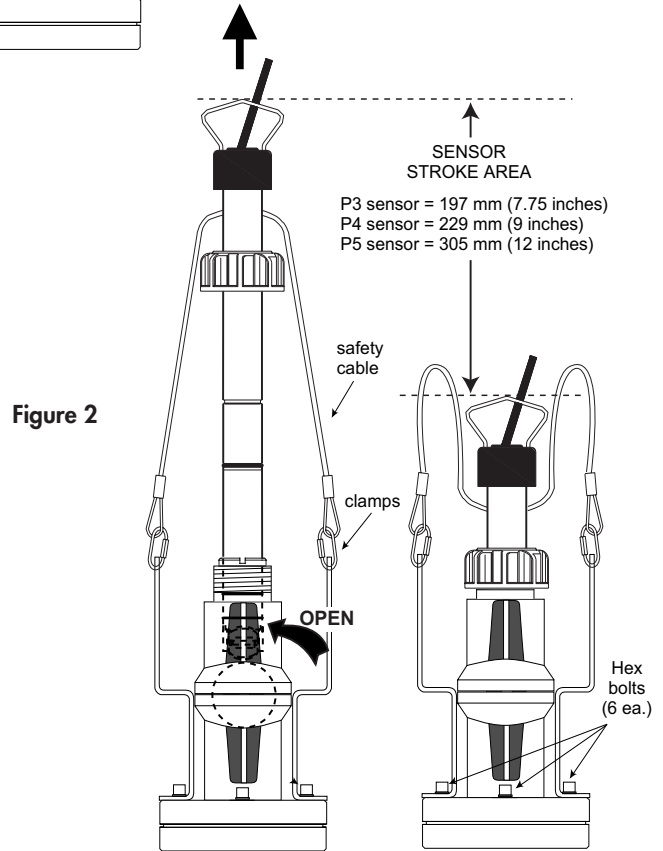

Figure 2
4. Pull the flow sensor upward to remove slack in the safety cables. (Figure 2)
5. Open the ball valve. (Figure 2).
Check the six (6) Hex bolts (Figure 2) prior to unscrewing the sensor cap. If bolts are loose, tighten securely before proceeding.
2. Carefully pull the flow sensor upward with a twisting motion until the safety lanyards are fully extended. (Figure 2)